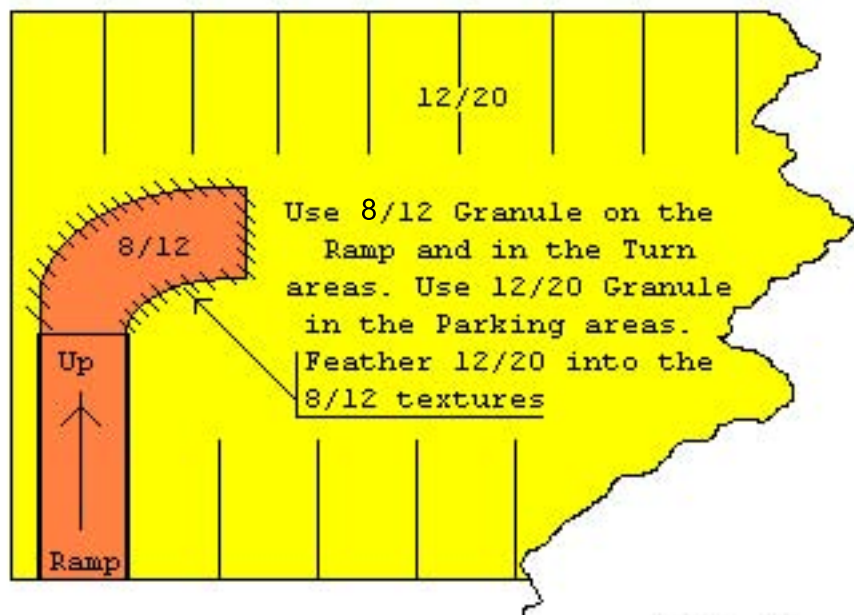

Fig. 16
- (B) Apply UB-6407 at 1 gallon per 100 square feet across the deck including the textured ramp and turn areas. Into the wet coating broadcast GacoShell granule, size 12/20, at an approximate rate of 4 pounds per 100 square feet. Do not broadcast the granule into the previously textured ramp and turn areas.
- (C) "Feather" or blend the granule distribution at the edges where the 8/12 and 12/20 join. (See: GW-15 Details, Fig. 16)